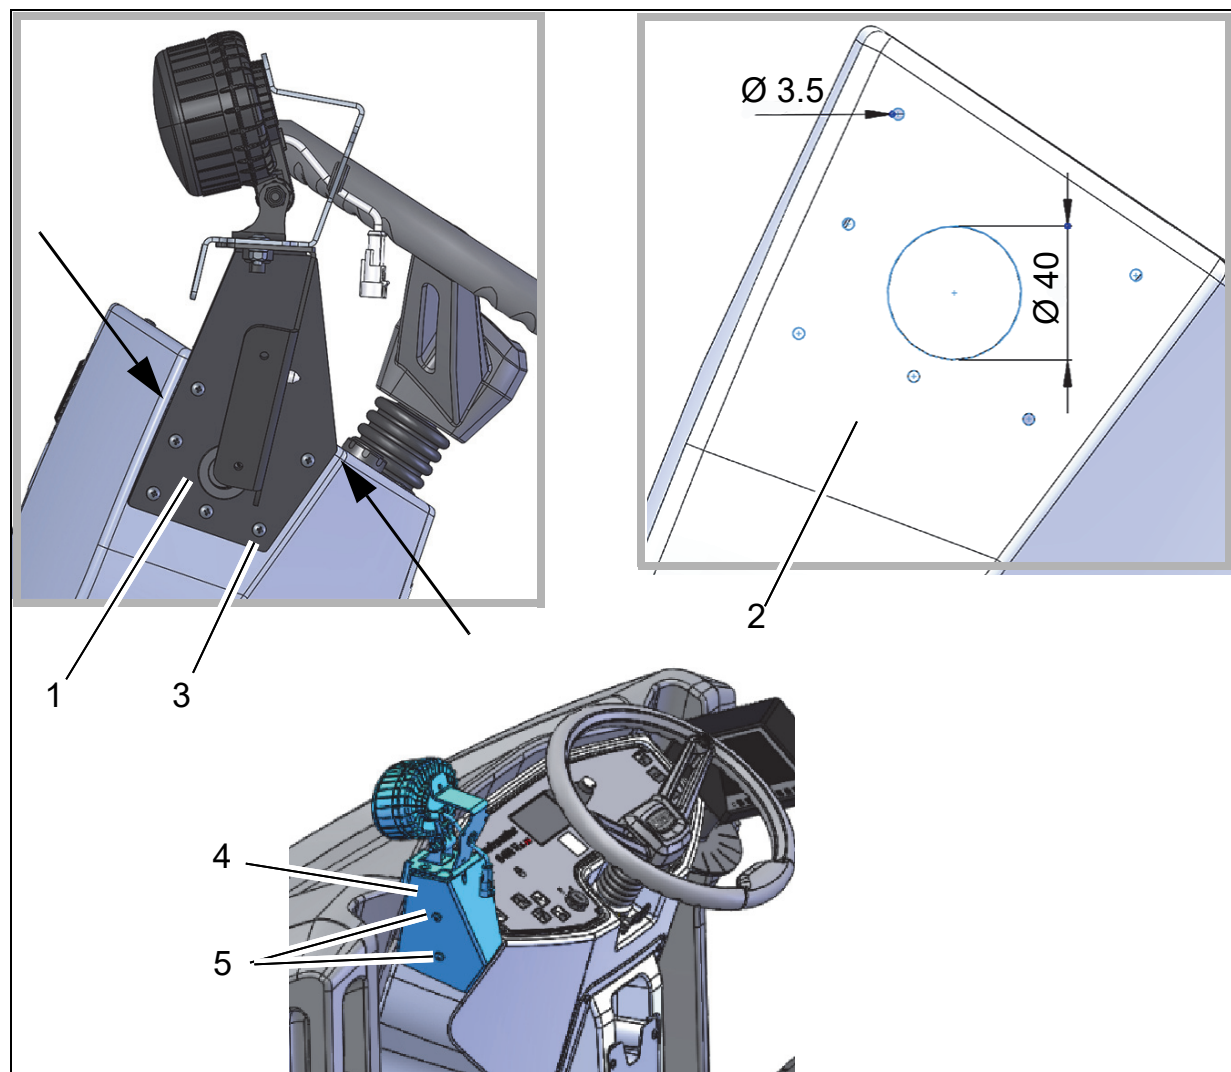

Fig. 2
1. Use the holder (Fig. 2/1) as the drilling template. Align the holder according to the figure and transfer the drilling pattern (Fig. 2/2) to the left side of the steering column and drill.
3. Fix the holder to the steering column using the six EJOT PT bolts (Fig. 2/3).
4. Fix the housing (Fig. 2/4) to the BlueSpot holder using the two M6x16 bolts.